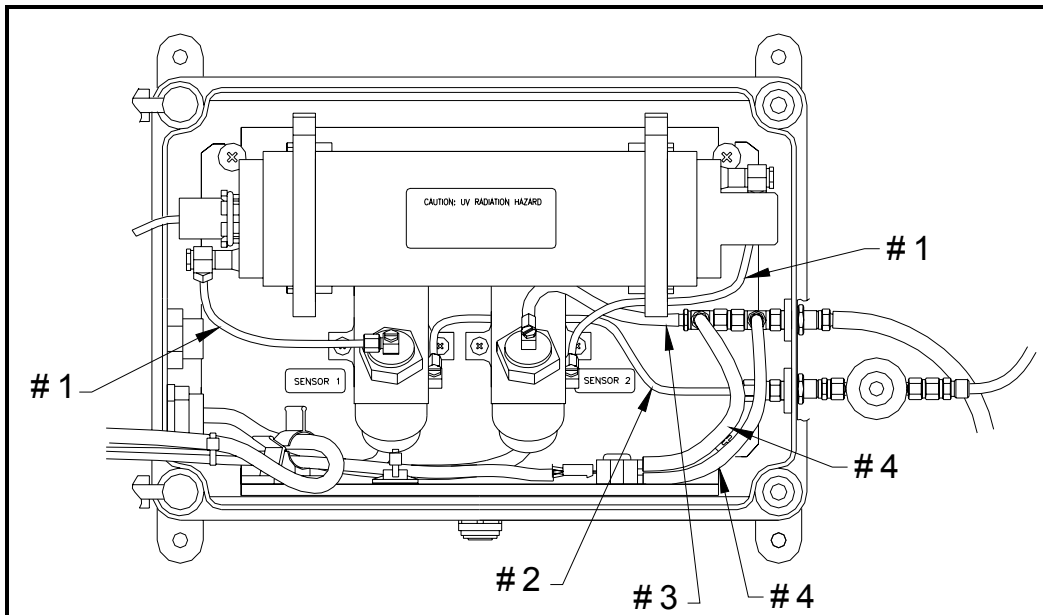

Figure 5. Location of Various Tubing Types
4. Replace the tubing as required, using the type of tubing identified in Table 1 and Figure 5.